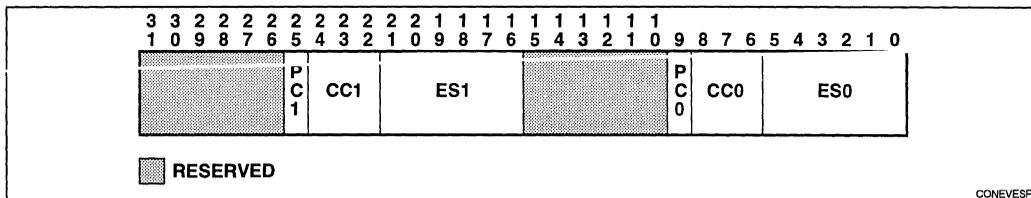

Figure 26-1. Control and Event Select Register
A 32-bit Control and Event Select Register (CESR) is used to control operation of the programmable counters and their associated pins. Figure 26-1 depicts the CESR. For each counter, the CESR contains a 6-bit Event Select field (ES), a Pin Control bit (PC), and a three bit control field (CC). It is not possible to selectively write a subset of the CESR. If only one event needs to be changed, the CESR must first be read, the appropriate bits modified, and all bits must be written back. At reset, all bits in the Control and Event Select Register are cleared.